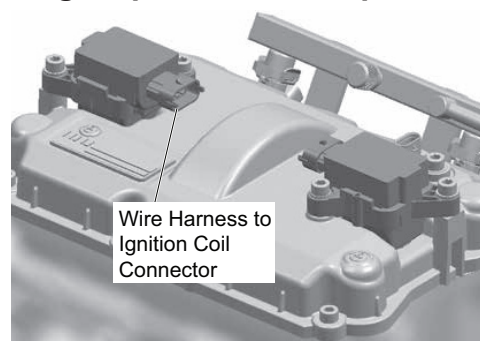

Fig. 11 Ignition Coils
2. Disconnect the wire harness connectors from the ignition coils (Ref. Fig. 11).